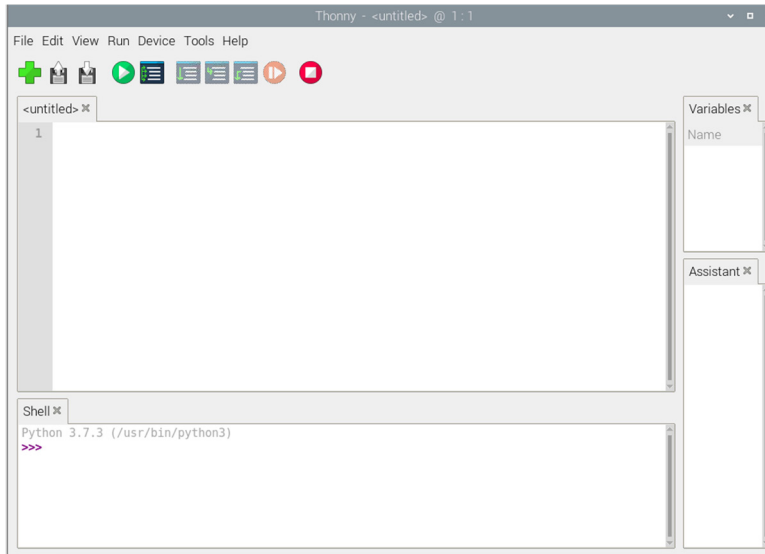

Figure 2.8 Thonny startup screen
- The Thonny startup screen will be displayed as shown in Figure 2.8. The screen is in two parts: The program is written in the upper part. The lower part is the **shell** where the results of the program are displayed. We can also run Python 3 commands interactively on the lower part of the screen. In the upper part we have the usual menu items found in most GUI type displays. Menu option **File** is used to create a new file, to open an existing file, to close, save, or print a file. Menu option **Edit** is used to undo, cut, paste, select, find and replace and so on. Option **View** is used to view files, heap, notes, stack, variables and so on. Menu option **Run** is used to run or debug a program. Menu option **Device** is used to soft reboot, to upload current script as main script and so on. Menu option **Tools** is used to manage packages, manage plug-ins, to configure Thonny, and so on. Finally, the **Help** menu option is used to get help on using the Thonny.